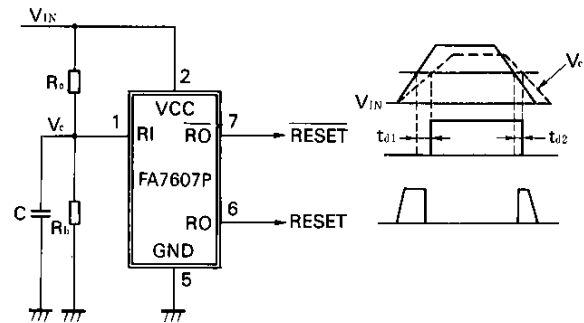

Fig. 4 Delay circuit
As explained before, the RESET and RESET signal timings depend on the rise and fall characteristics of the supply voltage. If appropriate timings (especially, output delays) cannot be obtained only by the characteristics, they may need to be set on the FA7607P. Fig. 4 shows an example of application. The delays (t_{d1} and t_{d2}) can be calculated by the formulas of (5) and (6).